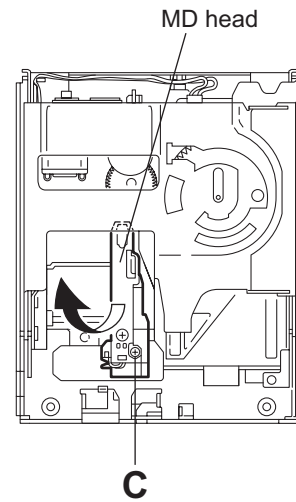

Fig.8
- From the top side of the main body, remove the screw **C** attaching the MD head. (See Fig.8.)
- After attaching the wire, confirm that the rest switch is pressed by the pickup. (See Fig.8.)